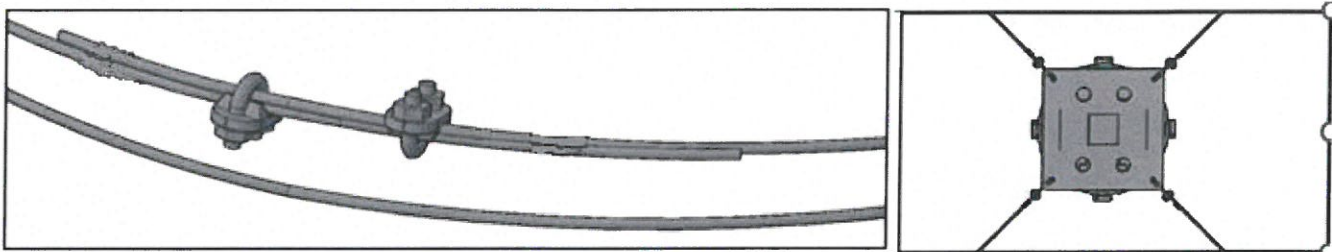

Figure 7 – Detail of safety cable clamps
2. Attach and fasten the steel downrod using (2) 1/2-13 x 4-1/2" Grade 8 HHCS, (2) 1/2-13 Grade 8 Nylon Lock Nuts and (4) 1/2" flat washers. Secure as show in Figure 7.